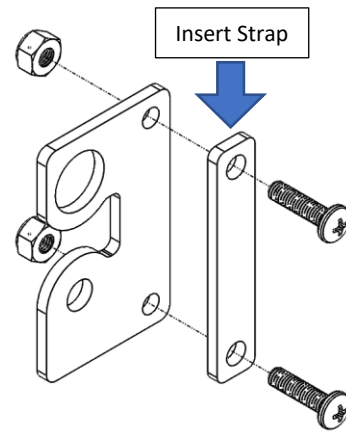

Figure 7: Adjustable Strap Clamp Assembly
21. Install the adjustable door strap onto the hard stop bracket using the strap clamp to secure it. Feed the strap clamp through the largest eyelet in the strap and bolt it to the hard stop bracket. Direct the strap towards the lower hinge when tightening down the clamp. Reference Figure 7 and 8.